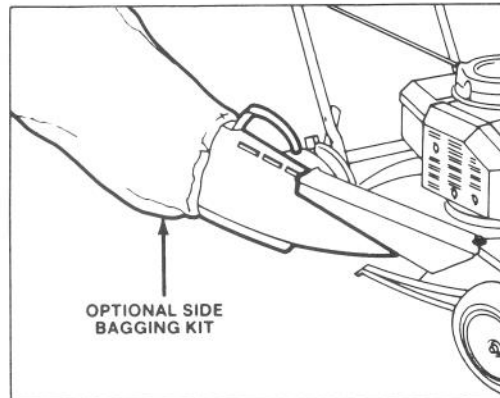

Figure 6
**SIDE BAG** — Optional side bag kit (Fig. 6) lets you bag lush grass in spring to help keep your lawn free of thatch forming clippings. In the fall, bag leaves while you mow to eliminate the hand-blistering raking job.